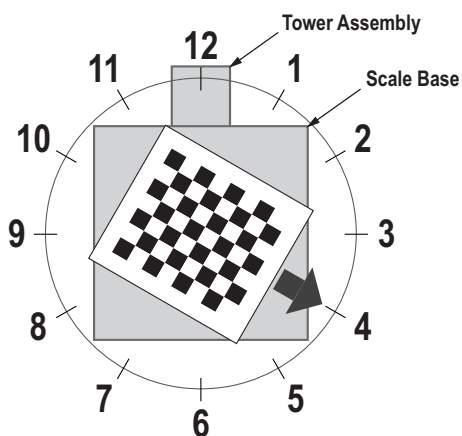

Figure 5-4. Rotate to 4 o'clock
- Align calibration object so the cross hairs are centered. Rotate the calibration object to 4 o'clock with the tower assembly being at 12 o'clock (Figure 5-4).